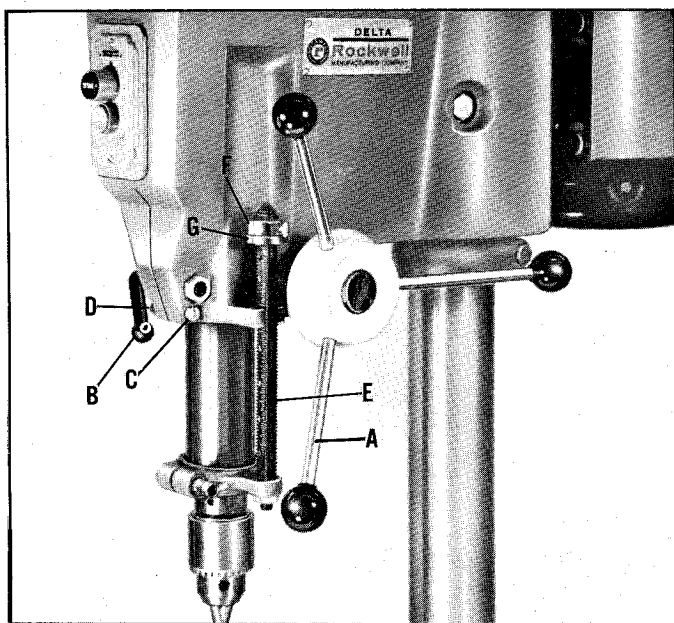
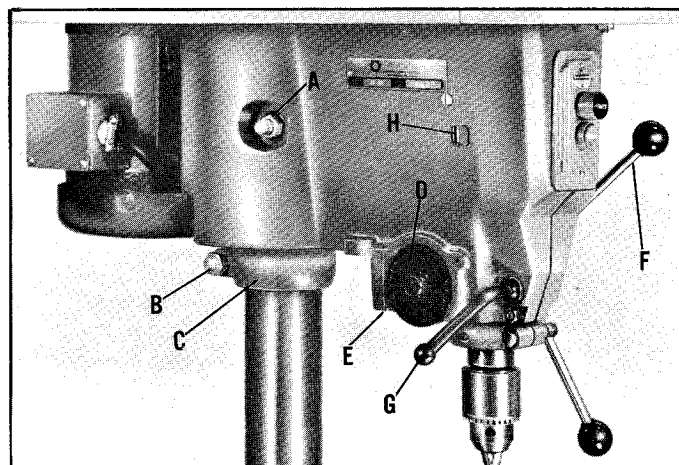

Fig. 5
Fig. 6
The adjusting screw (C) Fig. 5 and nut (D) are set at the factory to give the quill the proper sliding fit in the head casting. After long service play between quill and head casting can be removed without the need to replace these parts. The nut (D) Fig. 5 is loosened, adjustment is made with the screw (C), and the nut is again tightened to prevent the screw from turning. Hold the screw with a screwdriver when nut is tightened, and check by moving the quill up and down several times to be sure the quill does not bind. This adjustment should be made with the stop rod (E) Fig. 5 removed.
When drilling one or two holes to a predetermined depth, the calibrations on the face of the depth stop rod (E) Fig. 5, can be used.
1. Raise the locking sleeve (F) Fig. 5, and turn the micro-nut (G) to the desired position on the stop rod (E).
2. Lower the locking sleeve (F) so it will engage micro-nut (G) Fig. 5. Lock sleeve in place with thumb screw if drill press head is mounted in other than vertical position. When the drill press is mounted with the chuck pointing up the locking sleeve (F) and micro-nut (G) Fig. 5, should be reversed on the stop rod (E).
3. When locking sleeve (F) is in place on the micro-nut (G) Fig. 5, the micro-nut can not be turned. When a change in depth is required, the locking sleeve (F) must be raised and while it is raised, turn the micro-nut (G) the necessary calibration marks. Each mark represents .002". Then lower the locking sleeve.
For the purpose of automatically returning the spindle upward after the hole has been drilled, a clock spring is provided enclosed in the case (D) Fig. 6. This spring has been properly adjusted at the factory and should not be disturbed unless absolutely necessary. If at any time it is necessary to adjust it proceed as follows:
1. To increase the tension of the spring, turn the screw (E) Fig. 6, which is located underneath the head, clockwise. CAUTION: BE CAREFUL NOT TO BOTTOM RETURN SPRING WHILE TURNING SCREW (E) FIG. 6, CLOCKWISE, THERE SHOULD BE ENOUGH SLACK LEFT IN SPRING TO PERMIT LOWERING THE SPINDLE THE FULL AMOUNT OF TRAVEL.
2. To decrease tension of the spring, turn the screw (E) Fig. 6, counterclockwise.
3. The tension of the spring can be tested by pulling down the pilot wheel lever (F) Fig. 6, and testing to see if the quill will return to the up position. Be sure the quill locking lever (G) Fig. 6, is loose while testing. NOTE: Before determining if this adjustment is necessary, make sure the stop rod (E) Fig. 5, runs freely up and down and is not twisted in the slot or guide of the head casting.